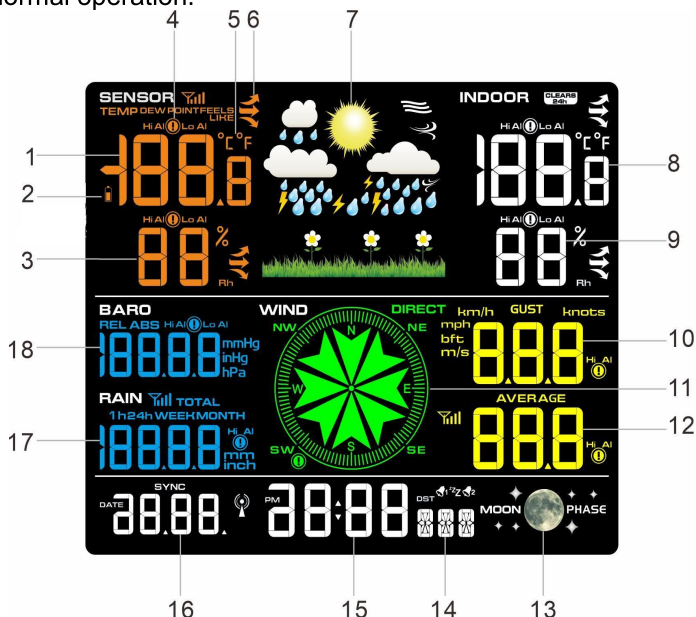

Figure 7
**Note:** The following illustration shows the full segment LCD display as shown in Figure 7 for description purposes only and will not appear like this during normal operation.